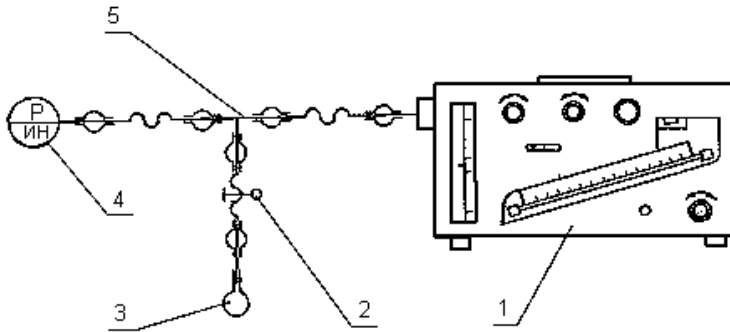

Fig. 11. A test set-up for defining of the pressure-gauge error;
10.4.5 To define a pressure gauge error at positive pressure establish the test set-up as shown in Fig. 11. Set the handwheel of KP unit into «МАНОМЕТР» position, КЭ handwheel into «НАГНЕТ» position, and «КЛАПАН» lever into «ЗАКР.» position. The pressure-gauge flowmeter pipe connection should be opened. Then, release clamp 2 and feeding the air into the system through the side orifice of the T-joint 5, create positive pressure in series; 200, 400, 600, 800 and 1000 Pa. The readings are taken from the control micro-pressure gauge. Simultaneously read every created pressure value of the pressure gauge being tested, with the accuracy higher than 2.5 Pa.
10.4.6 To define a pressure gauge error at vacuum-gauge pressure switch the micro-pressure gauge (see Fig. 11) to vacuum-gauge pressure position. If controls of an Instrument being tested are in such positions as described in item 10.4.5, set КЭ handwheel into «ОТКАС.» position. Create vacuum-gauge pressure in series 200, 400, 600, 800 and 1000 Pa, read the pressure gauge while boosting and while releasing the pressure, at the marks being tested, with accuracy higher than 2.5 Pa.